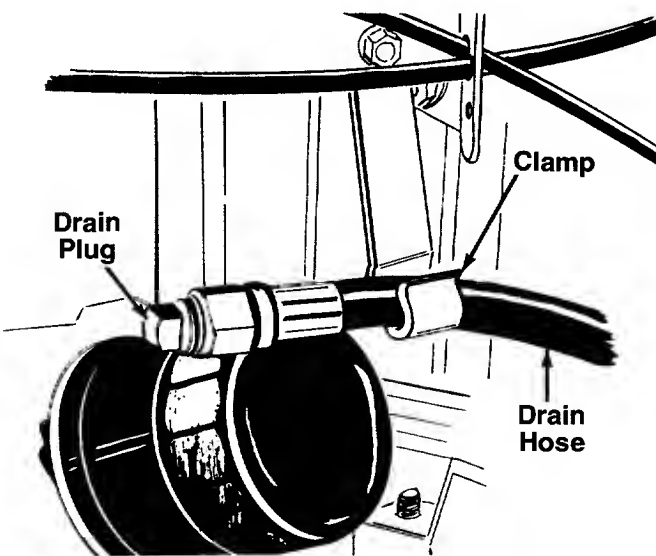

FIGURE 22.—Twin Cylinder Vanguard Engine Only
**NOTE:** On twin cylinder Vanguard engines, the engine is provided with a drain hose for your convenience in draining oil from the crankcase. A clamp secures the drain hose to the side of the engine. See figure 22. To drain the oil, remove the hose from the clamp and remove the drain plug from the end of the hose. Be certain to replace the drain plug and to use the clamp to secure hose to the engine before operating.